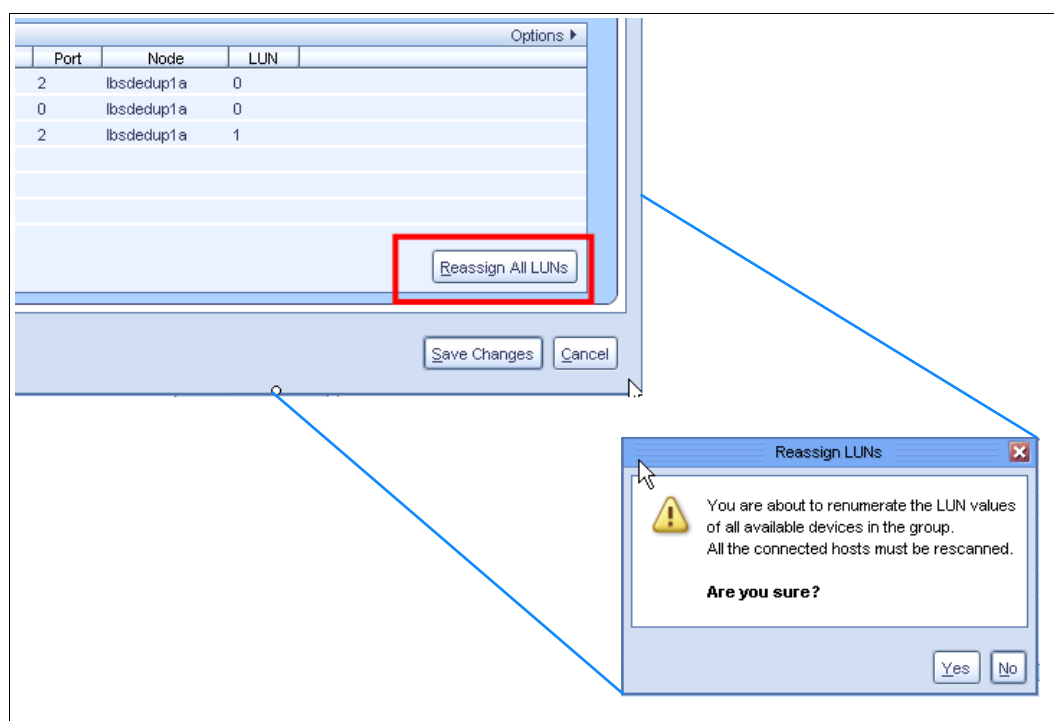

Figure 7-10 Reassigning LUNs
3. The system displays the Reassign LUNs window, which has the message, “You are about to renumber all the LUN values of the available devices in the group and all host connected must be rescanned”, as shown in Figure 7-10.